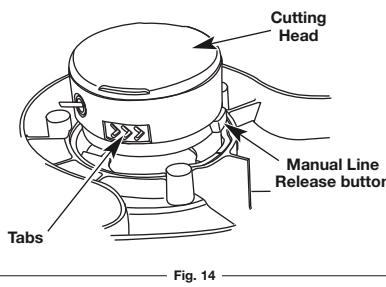

Fig. 14
The trimming line can also be extended manually by lightly pressing the manual line release button (Fig. 14) and pulling the trimming line. When doing so, always make sure the motor is off and the battery is removed from the unit.
1. Remove the cutting head cover by pressing in both tabs that are visible on either side of the cutting head (Fig. 14).
1. Remove the cutting head cover by pressing in on both of the cutting head cover tabs that are visible on either side of the outer spool (Fig. 14).